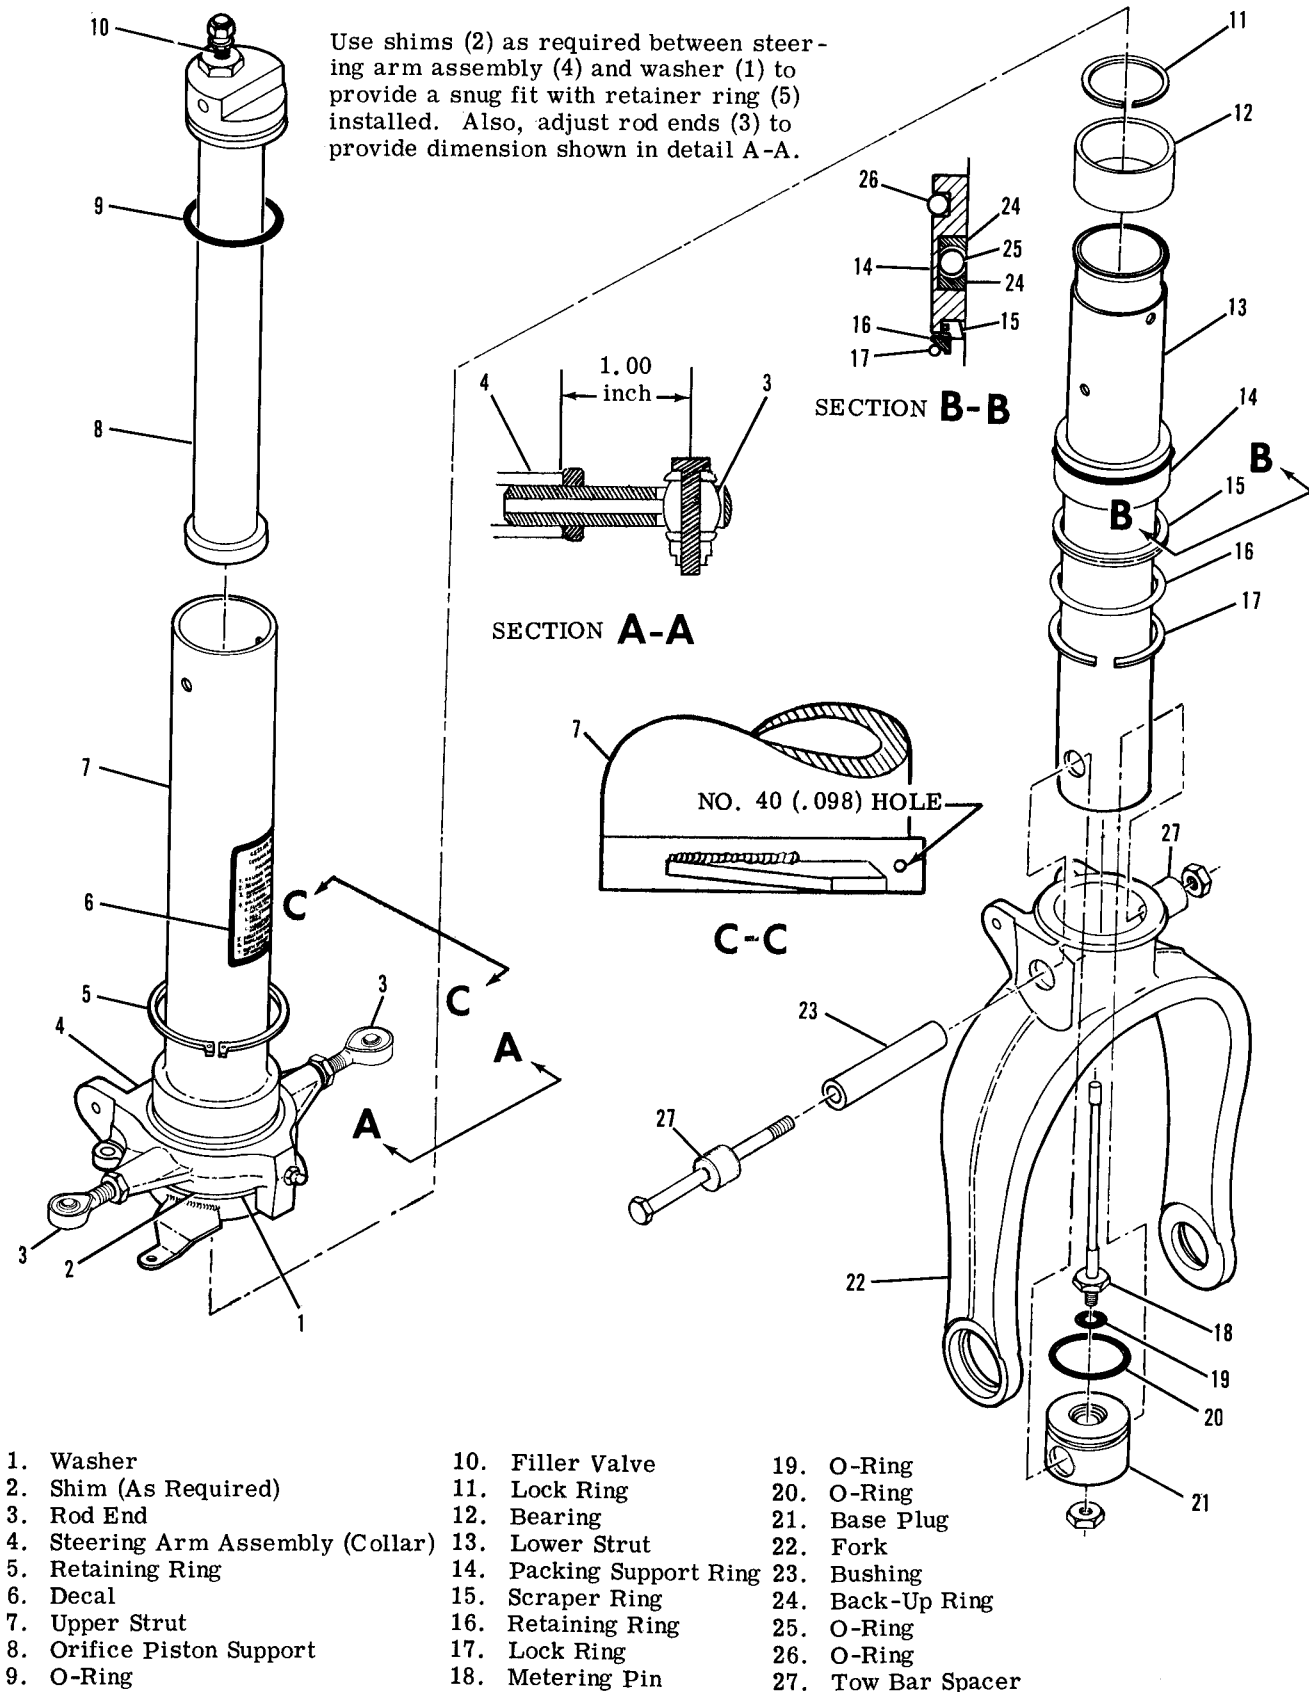

Figure 5-9. Nose Gear Shock Strut Assembly
(Refer to figure 5-9.)
5-38. NOSE GEAR SHOCK STRUT INSPECTION AND REPAIR. (Refer to figure 5-9.)
- d. Install rod ends (3) in steering collar (4) and adjust rod ends to dimension specified in Section A-A in figure 5-9.
- e. Install O-ring (9) and filler valve (10) in orifice piston support (8) and install orifice piston support in upper strut (7).
- f. Install O-ring (20) and metering pin (18) with O-ring (19) in base plug (21); secure with nut.
5-54. NOSE WHEEL STEERING ADJUSTMENT. Before attaching nose wheel steering rods to the rod ends protruding from the steering arm assembly, adjust rod ends to the dimension specified in section view A-A in figure 5-9. Since the nose wheel steering system and the rudder system are interconnected, adjustment to one system might affect the other system. Refer to Section 10 of this manual for instructions for rigging the nose wheel steering system and the rudder system.